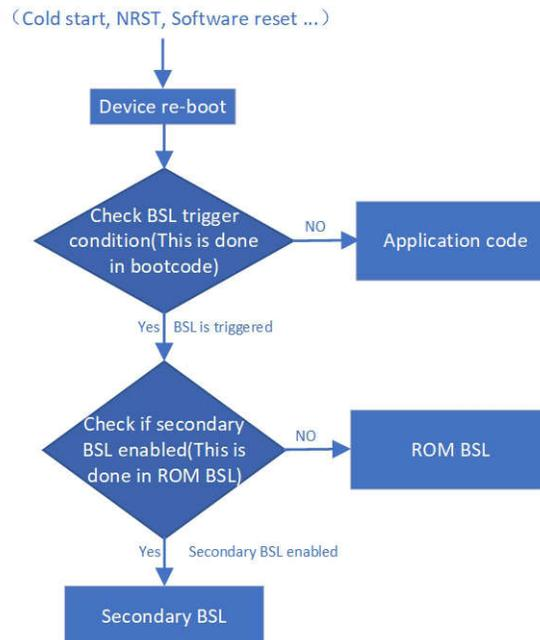

Figure 1-7. Secondary BSL Execute Flow
- For the secondary BSL start from 0x1000, you can put this anywhere in the flash except 0x0. Because the application code must start from the 0x0 address. In this condition, when device power up or reseted, the device checks the BSL invoke condition in the bootcode the decide run application code or BSL code. The demo reused the ROM-based BSL's trigger resources. (Both hardware, software and blank device detection, more information please refer to section 3.2 of *MSPM0 Bootloader User's Guide*). Figure 1-7 shows the secondary BSL demo executed flow.